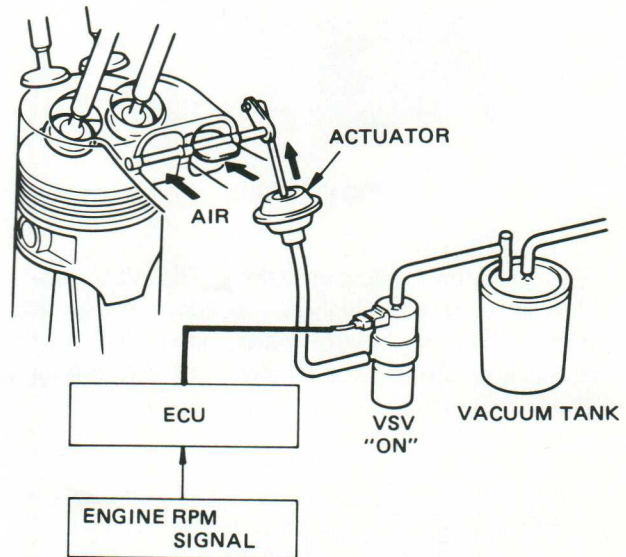

Figure 239-7
2. High Speeds (Above 4300 rpm). When the engine is running at high speeds, the ECU sends a signal to the VSV, causing the VSV to turn on. This allows atmospheric pressure to pass from the VSV to the actuator and results in the intake air control valve opening all the way. Since both passages open up, intake resistance decreases and higher engine output becomes possible (Figure 239-7).